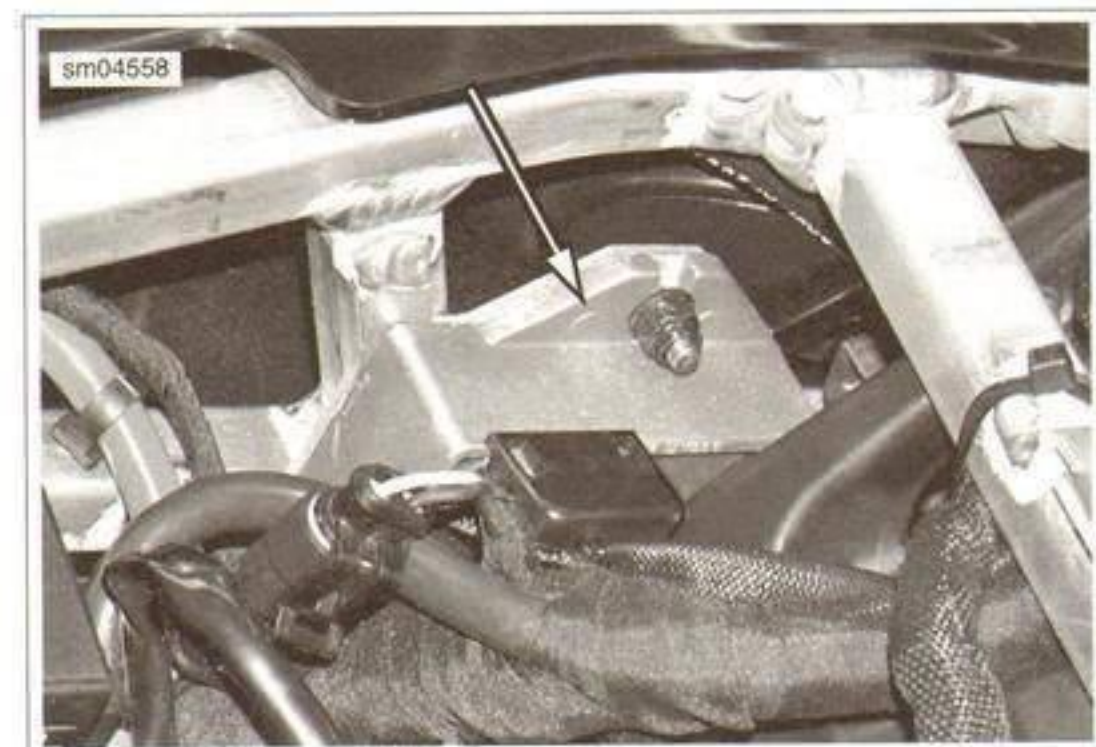

Figure 7-30. Voltage Regulator
5. See Figure 7-30. Remove the nut, washer and the voltage regulator.